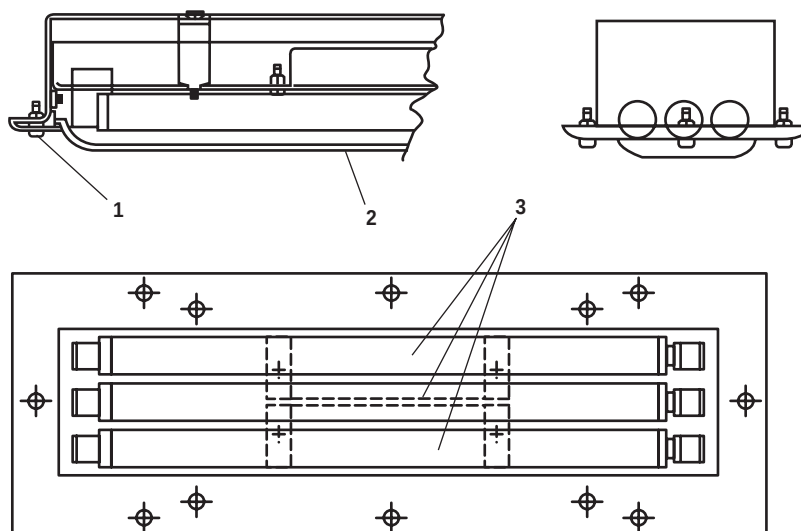

Figure 1. Fluorescent Fixture (Recessed)
1. Loosen the captive-knurled screws (figure 1, item 1) and remove the diffuser (figure 1, item 2).
2. Remove the fluorescent lamps (figure 1, item 3) from the fixture.
1. Install the fluorescent lamps (figure 1, item 3) in the fixture.
2. Install the diffuser (figure 1, item 2) in the fixture and secure it with the captive screws (figure 1, item 1).